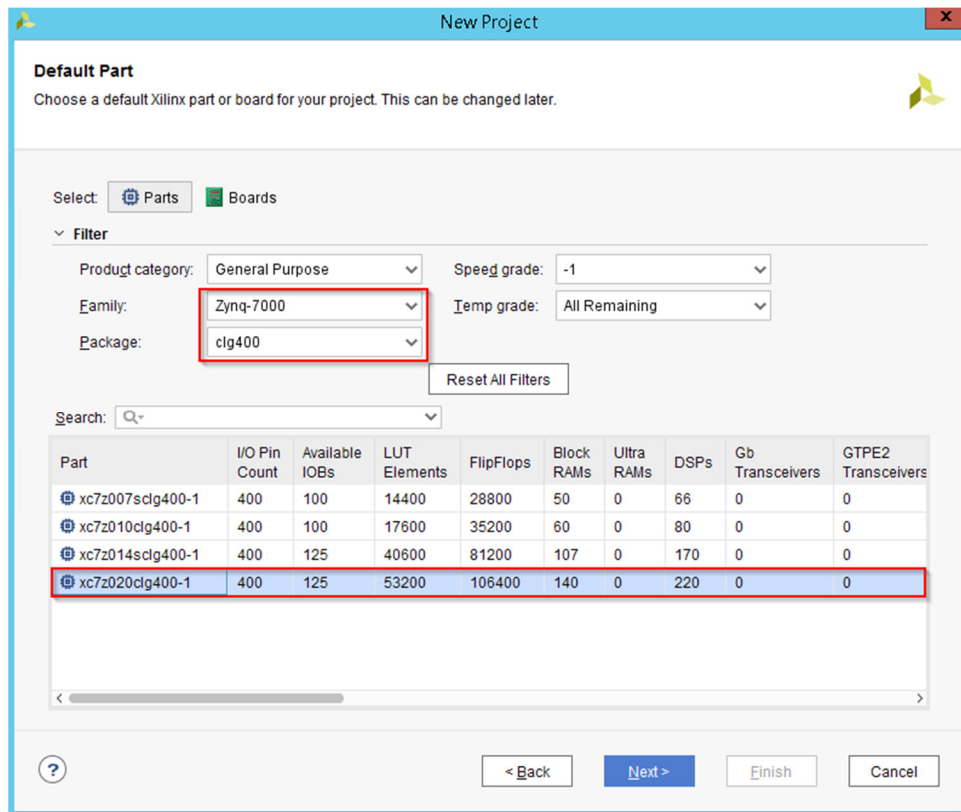

Figure 4: Part selection
5. In the *Default Part* form, using the **Parts** option and various drop-down fields of the **Filter** section, select the **xc7z020clg400-1** part as shown in Figure 4 below. Or to keep it simple, you can select **Boards** and then select **PYNQ-Z1**. Click **Next**.